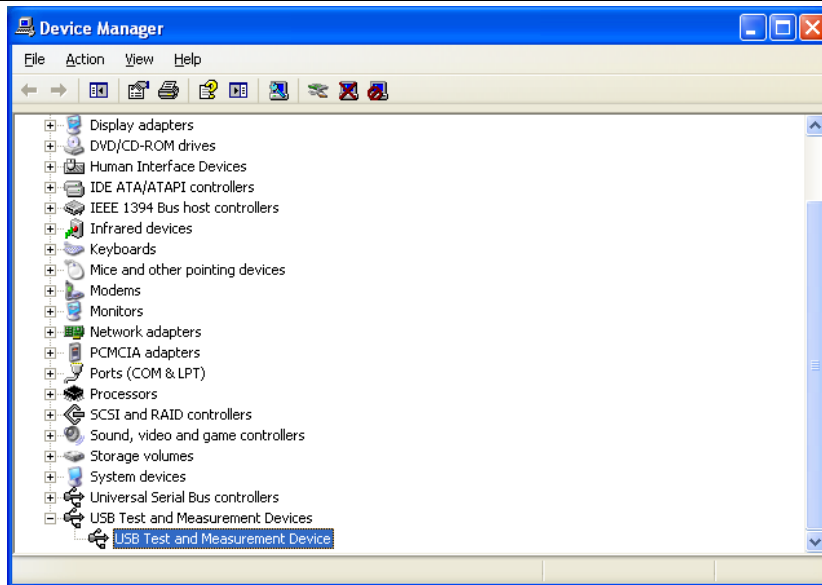

Figure 6-7 PC has installed USBTMC drive
**Install drive:** The installing steps of USBTMC are the same as that of USBCDC, see 6.2.3.1 for reference. When the installation of drive is finished, user can see “USB Test and Measurement Devices” in the device manager of PC, as shown in figure 6-7.